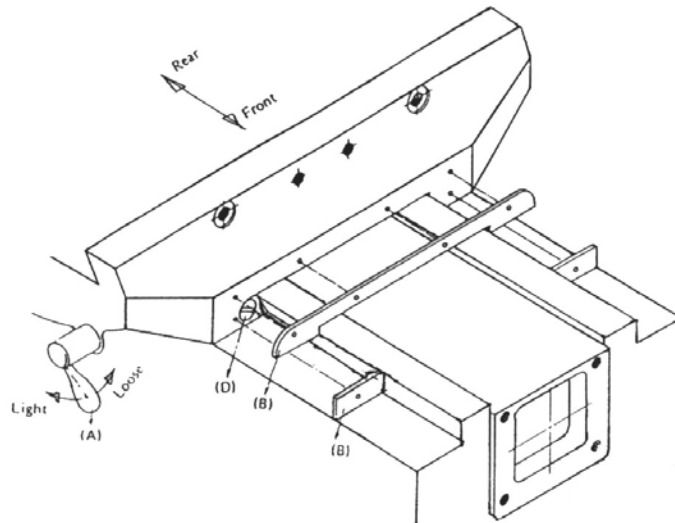

FIG10-4
10.2.2 Adjustment of saddle gib (vide figure 10-4):